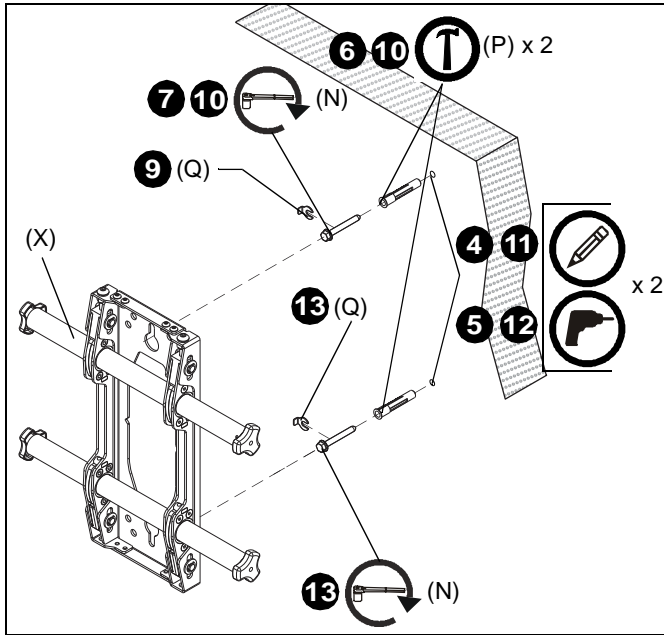

Figure 3
4. Mark the wall through upper mounting slot. (See Figure 3)
6. Install one anchor (P) into pilot hole using a hammer, making sure that the anchor is flush with the wall.
7. Partially install one 5/16 x 2-1/2" flanged lag bolt (N) into pilot hole but do not tighten to wall.
8. Hang mount (X), aligning upper mounting slot over lag bolt. (See Figure 3)
9. Place one slotted washer (Q) over flanged lag bolt. (See Figure 3)
10. Tighten lag bolt to secure mount (X) to wall at upper mounting slots.
11. Mark the attachment point for the lower mounting slot. (See Figure 3)
12. Drill 3/8" x 3-1/2" (9.5mm x 88.9mm) pilot hole at marking for lower mounting hole. (See Figure 3)
13. Use one 5/16 x 2-1/2" flanged lag bolt (N) and one 5/16" slotted washer (Q) to attach the mount to the wall through the lower mounting hole. (See Figure 3)